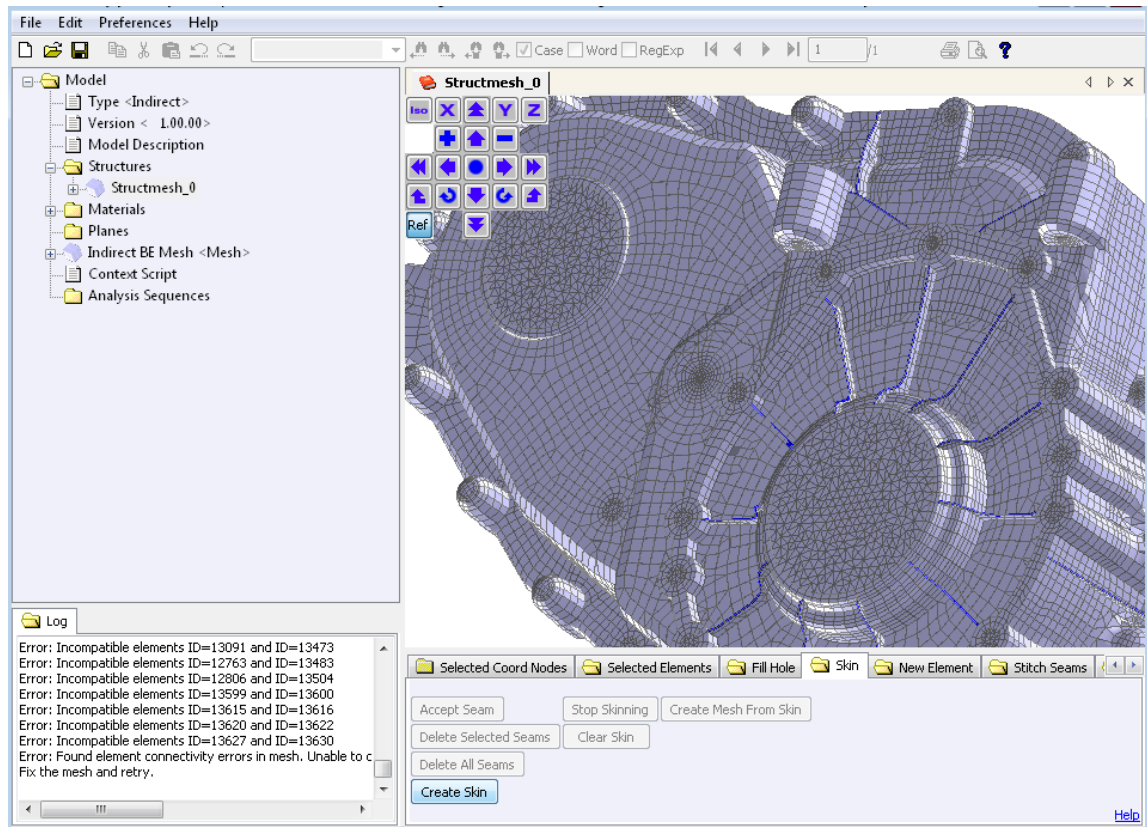

Figure 5.33 Press **Skin** → **Create Skin** to check for incompatible elements.
- Press **Skin** → **Create Skin** button. If the FE structure mesh has elements with bad coordinate connectivity then *Coustyx* throws error messages in the log window and asks the user to fix these Bad Elements before attempting to skin again. (Figure 5.33)